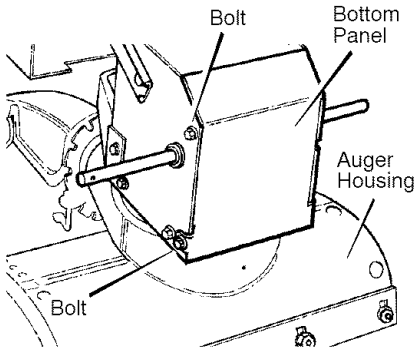

Figure 27
2. Loosen the **bolts** on each side of the **bottom panel** (see Figure 27).
18. Install the **bottom panel** (see Figure 27).
13. Install the **bottom panel** (see Figure 27).